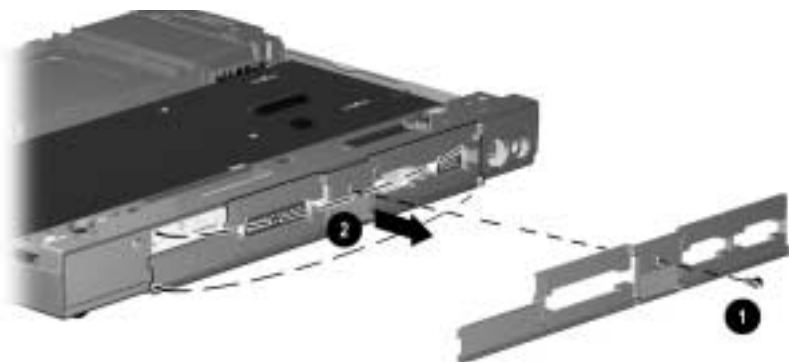

Figure 5-29. Removing the I/O Cover
3. Remove the screw securing the I/O cover to the speaker housing **①** (Figure 5-29).
4. Flex the middle of the I/O cover away from the computer **②**.